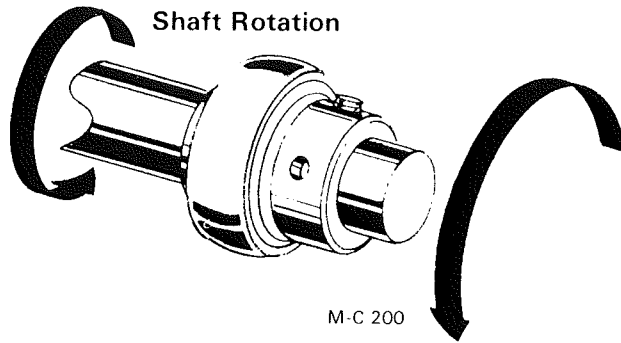

Figure 28
3. Mate the cam of the collar with the cam of the bearing inner ring, see Figure 28.